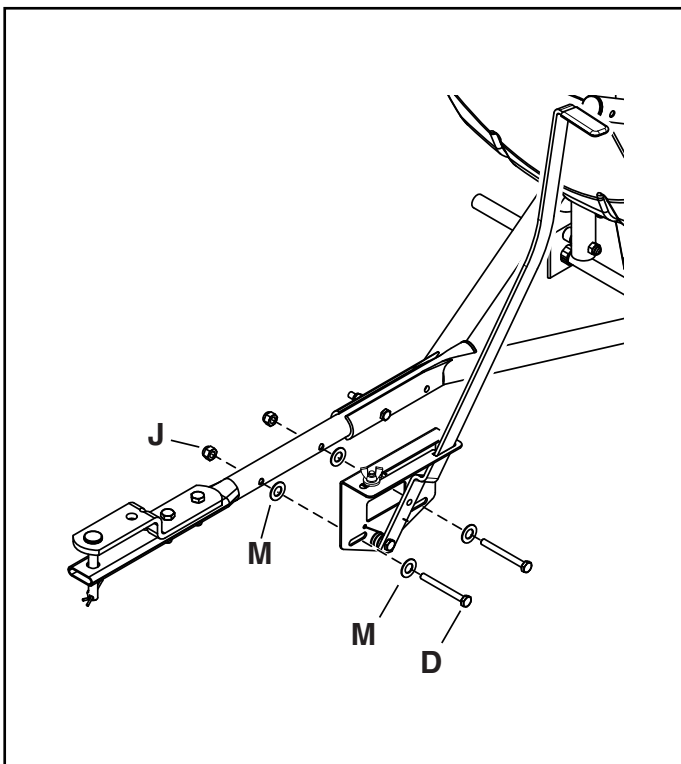

FIGURE 10
STEP 10: (SEE FIGURE 10)
- Attach the flow control bracket to the hitch tube using two 1/4" x 1-3/4" hex bolts (D), four 1/4" washers (M) and two 1/4" nylock nuts (J). **Do not tighten completely.**